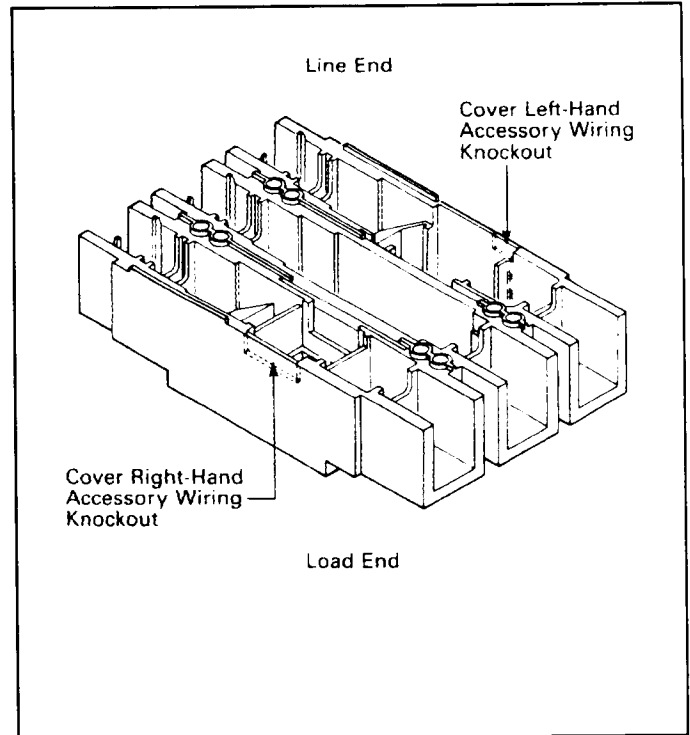

Fig. 2-4 Location of Accessory Wiring Knockout in Cover
- 2-9. Locate knockout (Fig. 2-4) provided in right side of cover for accessory wiring. Remove knockout and file rough edges smooth.